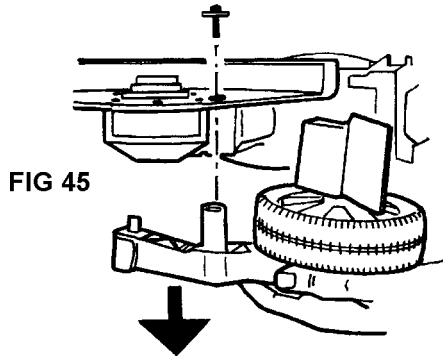

FIG 45
2. Remove one screw and washer through hole in blade cover (Fig. 45). Pull wheel arm assembly out of edger body.